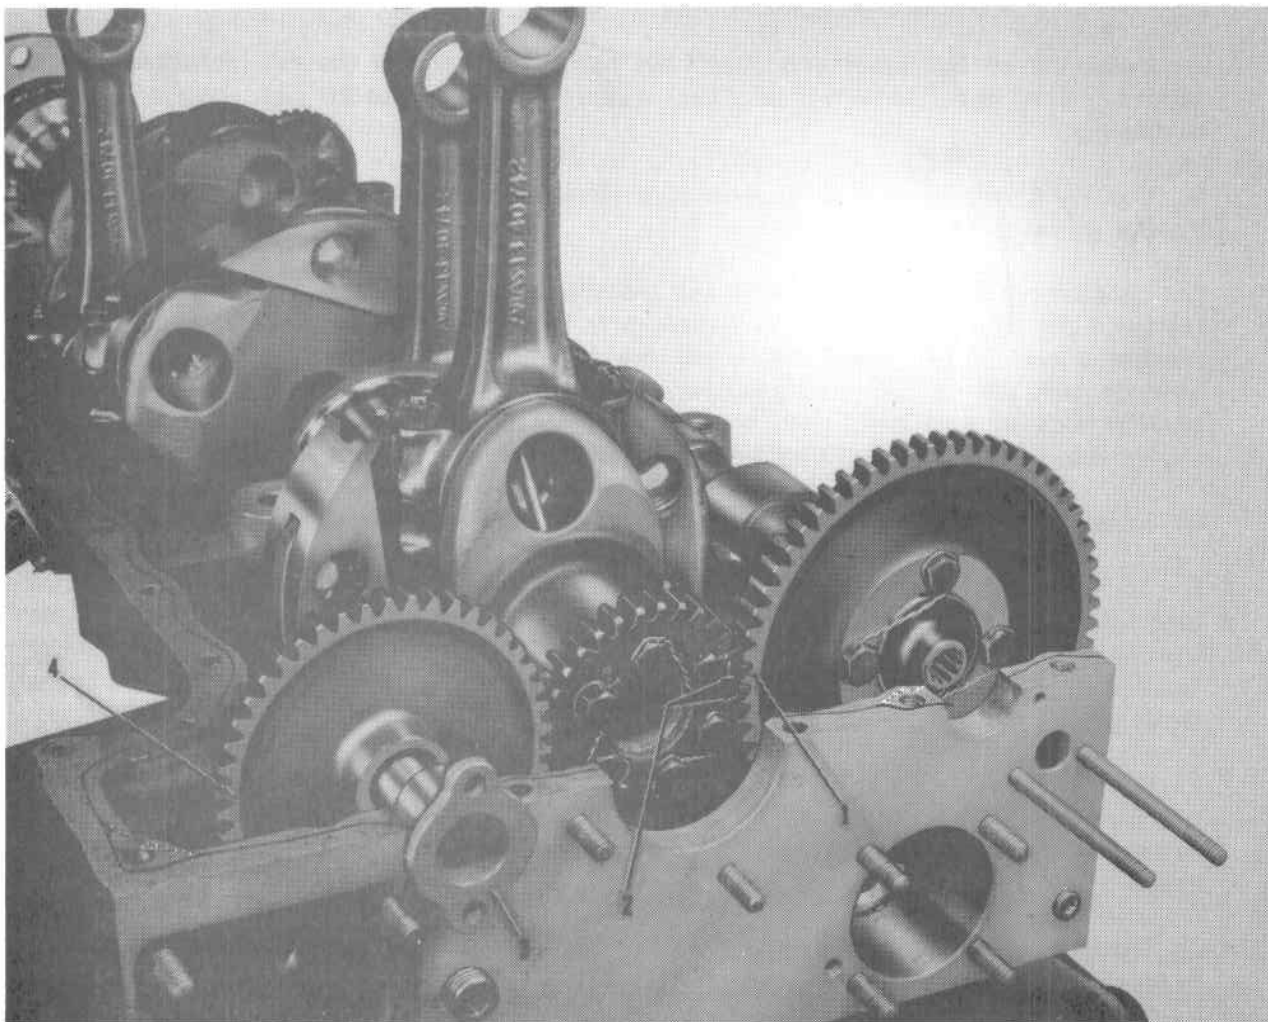

FIGURE 72-60-02. IDLER GEAR, SUPPORT PIN AND TIMING MARKS.
E. Slide the governor driver gear on the front end of the camshaft. Lay the camshaft assembly in its bearings in the left case, meshing the spur gear teeth with those of the crankshaft gear, so that the timing marks will align as illustrated in Figure 72-60-02, Idler Gear Support Pin and Timing Marks, and turning the governor driven gear to mesh it with the driver gear.